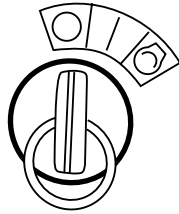

Figure 21. Starter Switch (STOP)
4. If using an electric start unit, return the key switch to the **STOP** position (Figure 21) as soon as the engine stops.